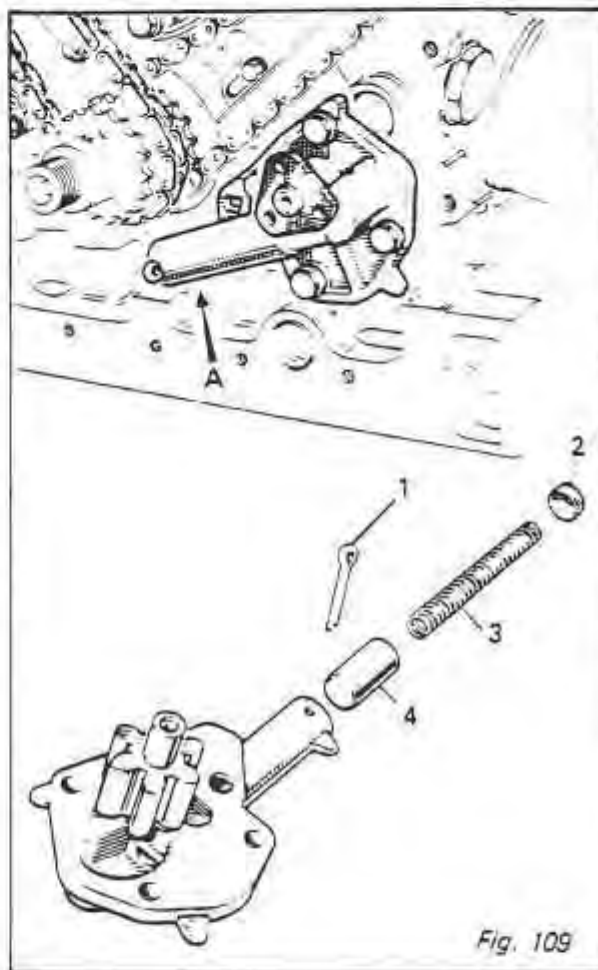

Fig. 109
tapping the release valve boss) (A) (Fig. 109)